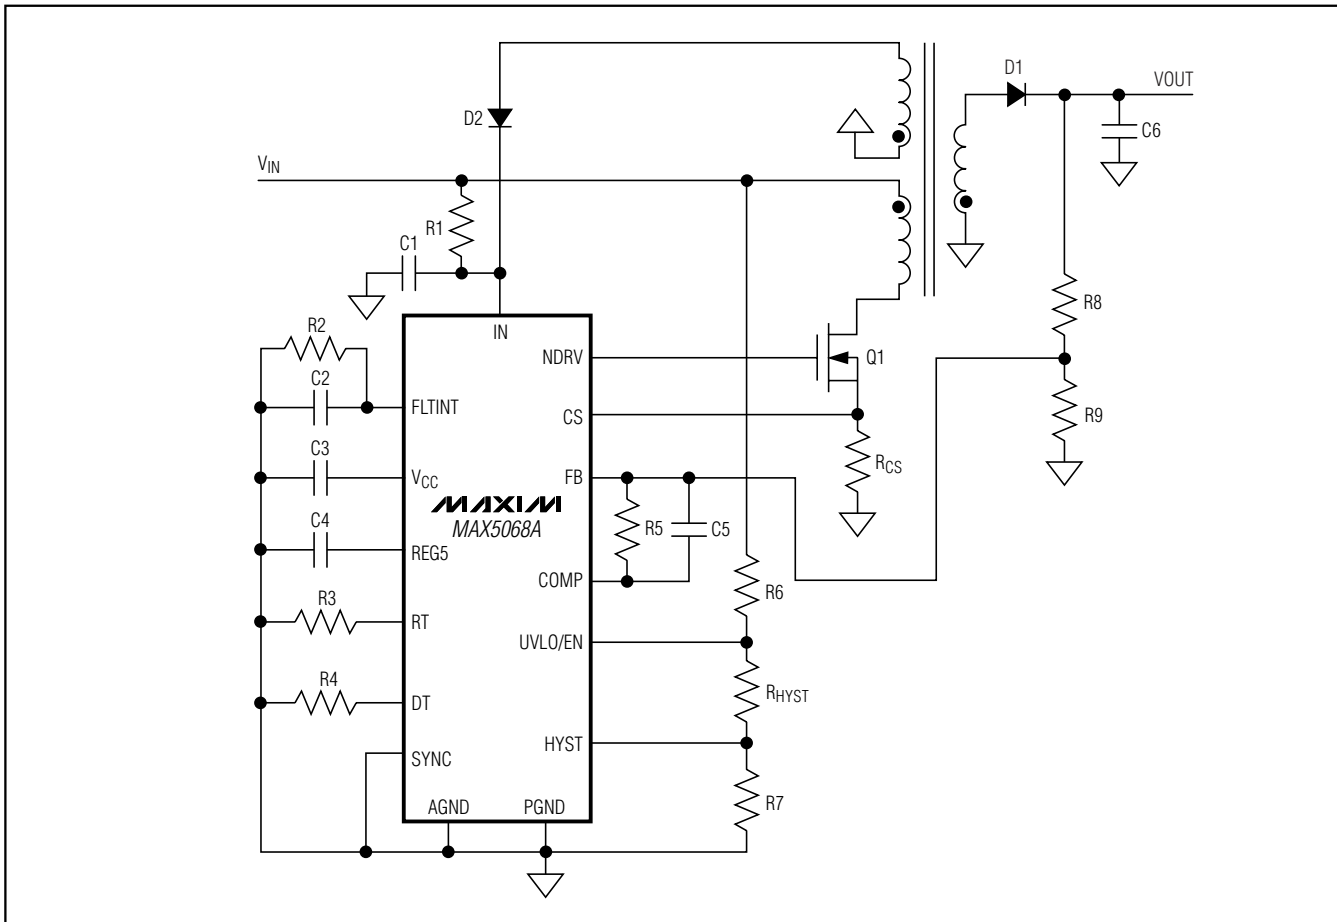
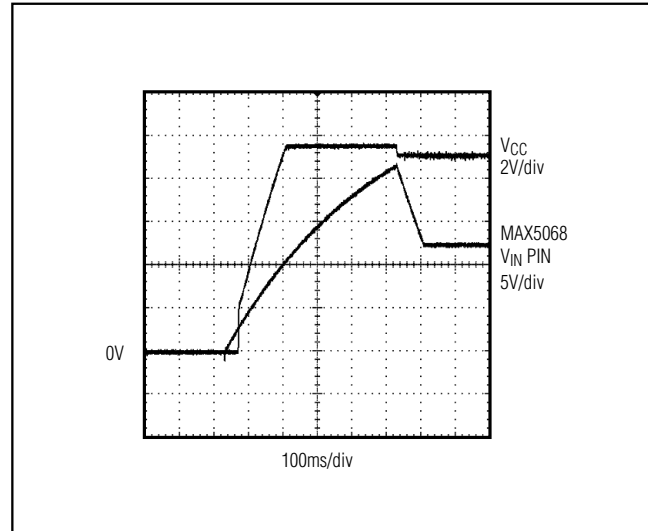

Figure 1. Nonisolated Power Supply with Programmable Input Supply Voltage
Figure 5.  $V_{IN}$  and  $V_{CC}$  During Startup When Using the MAX5068 in Bootstrapped Mode (Also see Figure 1)
**Note 2:** The MAX5068A/B are intended for use in universal-input power supplies. The internal clamp circuit is used to prevent the bootstrap capacitor (C1 in Figure 1) from charging to a voltage beyond the absolute maximum rating of the device when UVLO/EN is low. The maximum current to  $V_{IN}$  (hence to clamp) when UVLO is low (device is in shutdown) must be externally limited to 2mA. Clamp currents higher than 2mA may result in clamp voltages higher than 30V, thus exceeding the absolute maximum rating for  $V_{IN}$ . For the MAX5068C/D, do not exceed the 24V maximum operating voltage of the device.
Power supplies designed with the MAX5068 use a high-value startup resistor, R1, which charges a reservoir capacitor, C1 (Figure 1). During this initial period, while the voltage is less than the internal bootstrap UVLO threshold, the device typically consumes only 47μA of quiescent current. This low startup current and the large bootstrap UVLO hysteresis help to minimize the power dissipation across R1, even at the high end of the universal AC input voltage (265VAC).
Normally,  $V_{IN}$  is derived from the tertiary winding of the transformer. However, at startup there is no energy delivered through the transformer, hence, a special bootstrap sequence is required. Figure 5 shows the voltages on  $V_{IN}$  and  $V_{CC}$  during startup. Initially, both  $V_{IN}$  and  $V_{CC}$  are zero. After the input voltage is applied, C1 charges through the startup resistor, R1, to an intermediate voltage (see Figure 1). At this point, the internal regulator begins charging C3 (see Figure 5). Only 47 $\mu$ A of the current supplied by R1 is used by the MAX5068A/C/D. The remaining input current charges C1 and C3. The charging of C3 stops when the  $V_{CC}$  voltage reaches approximately 9.5V. The voltage across C1 continues rising until it reaches the wake-up level of 23.6V. Once  $V_{IN}$  exceeds the bootstrap UVLO threshold, NDRV begins switching the MOSFET and energy is transferred to the secondary and tertiary outputs. If the voltage on the tertiary output builds to higher than 9.74V (the bootstrap UVLO lower threshold), startup ends and sustained operation commences.
The  $V_{IN}$  bypass capacitor, C1, supplies current immediately after wakeup (see Figure 1). The size of C1 and the connection configuration of the tertiary winding determine the number of cycles available for startup. Large values of C1 increase the startup time and also supply extra gate charge for more cycles during initial startup. If the value of C1 is too small,  $V_{IN}$  drops below 9.74V because NDRV does not have enough time to switch and build up sufficient voltage across the tertiary output that powers the device. The device goes back into UVLO and does not start. Use low-leakage capacitors for C1 and C3.
The above startup method is applicable to a circuit similar to the one shown in Figure 1. In this circuit, the tertiary winding has the same phase as the output windings. Thus, the voltage on the tertiary winding at any given time is proportional to the output voltage and goes through the same soft-start period as the output voltage. The minimum discharge time of C1 from 22V to 10V must be greater than the soft-start time ( $t_{SS}$ ).
The MAX5068 includes an internal error amplifier that can regulate the output voltage in the case of a nonisolated power supply (Figure 1). Calculate the output voltage using the following equation: